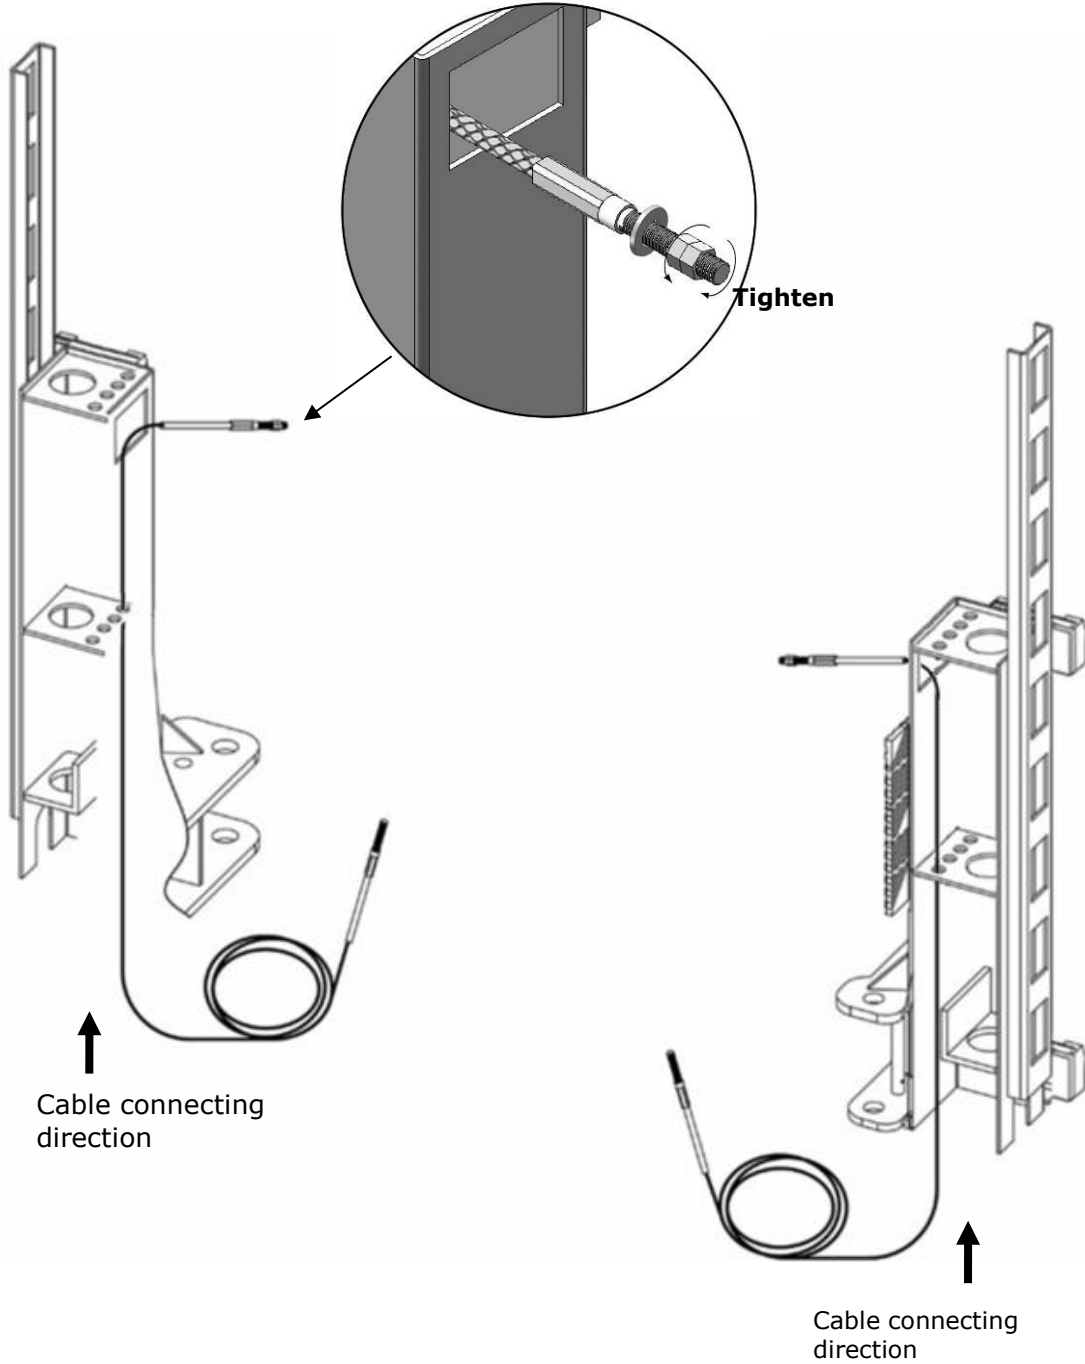

Fig. 29
1.1 Take out the carriages plastic cover, cable pass through from the bottom of the carriages and be pulled out from the open of carriages, then screw the two cable nuts (See Fig. 29).